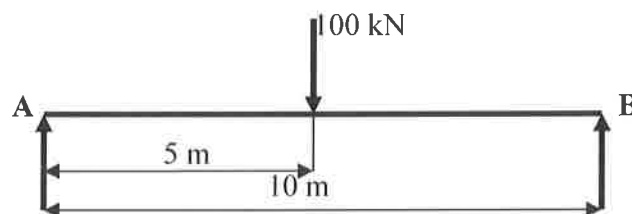

Figure Q2
2. A beam of length 10 m is simply-supported at A and B and it carries a load of 100 kN at midspan as shown in Figure Q2. The beam has a rectangular cross-section 75 mm x 250 mm. Taking $E = 200 \text{ GN/m}^2$ for the beam material, calculate the maximum vertical deflection of the beam. **(106.7 mm)**